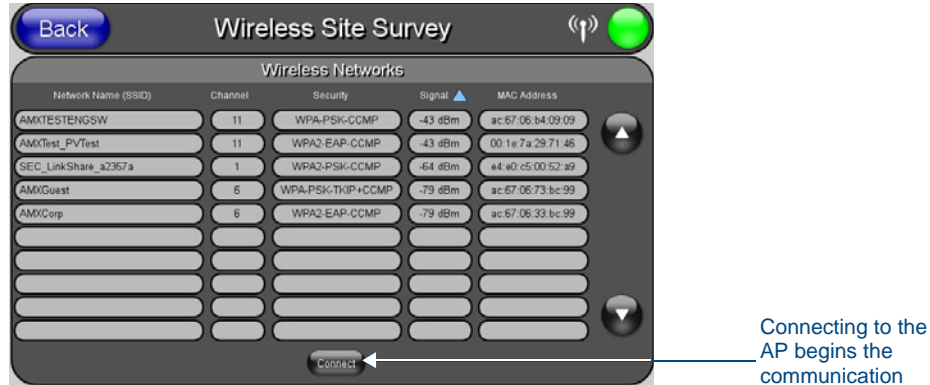

FIG. 17 Site Survey of available APS (Unsecured AP shown selected)
- Automatically filling it by pressing the **Site Survey** button. From the *Site Survey* page, choosing an *Open* AP from within the *Site Survey* page and then pressing the **Connect** button at the bottom of the page (FIG. 17).